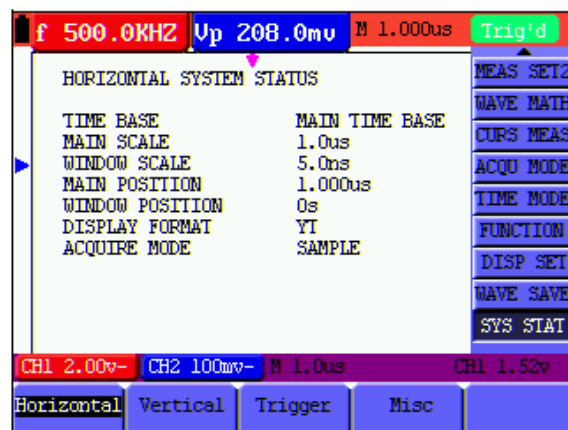

Figure 54: System State
4. The screen that looks like the following figure 54 will be displayed.